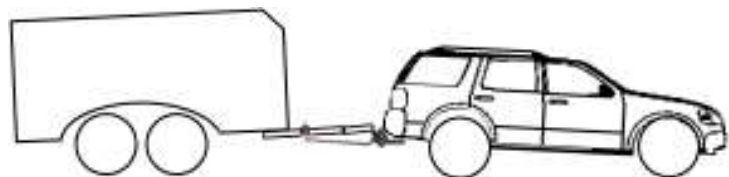

Figure 11
- b. The FRONT bumper measurement should never reduce more than the REAR measurement (see Figure 11). If necessary, increase the number of chain links between Rapid Hook Up and spring bar. If there are no more links, the angle of the Ball Mount assembly (1) must be decreased. Uncouple the tow vehicle. With the upper Bolt (12f) removed from the Ball Mount (1) assembly, pivot the Ball Mount assembly up and remove a Spacer Washer (12b) from the Rivet (12a).